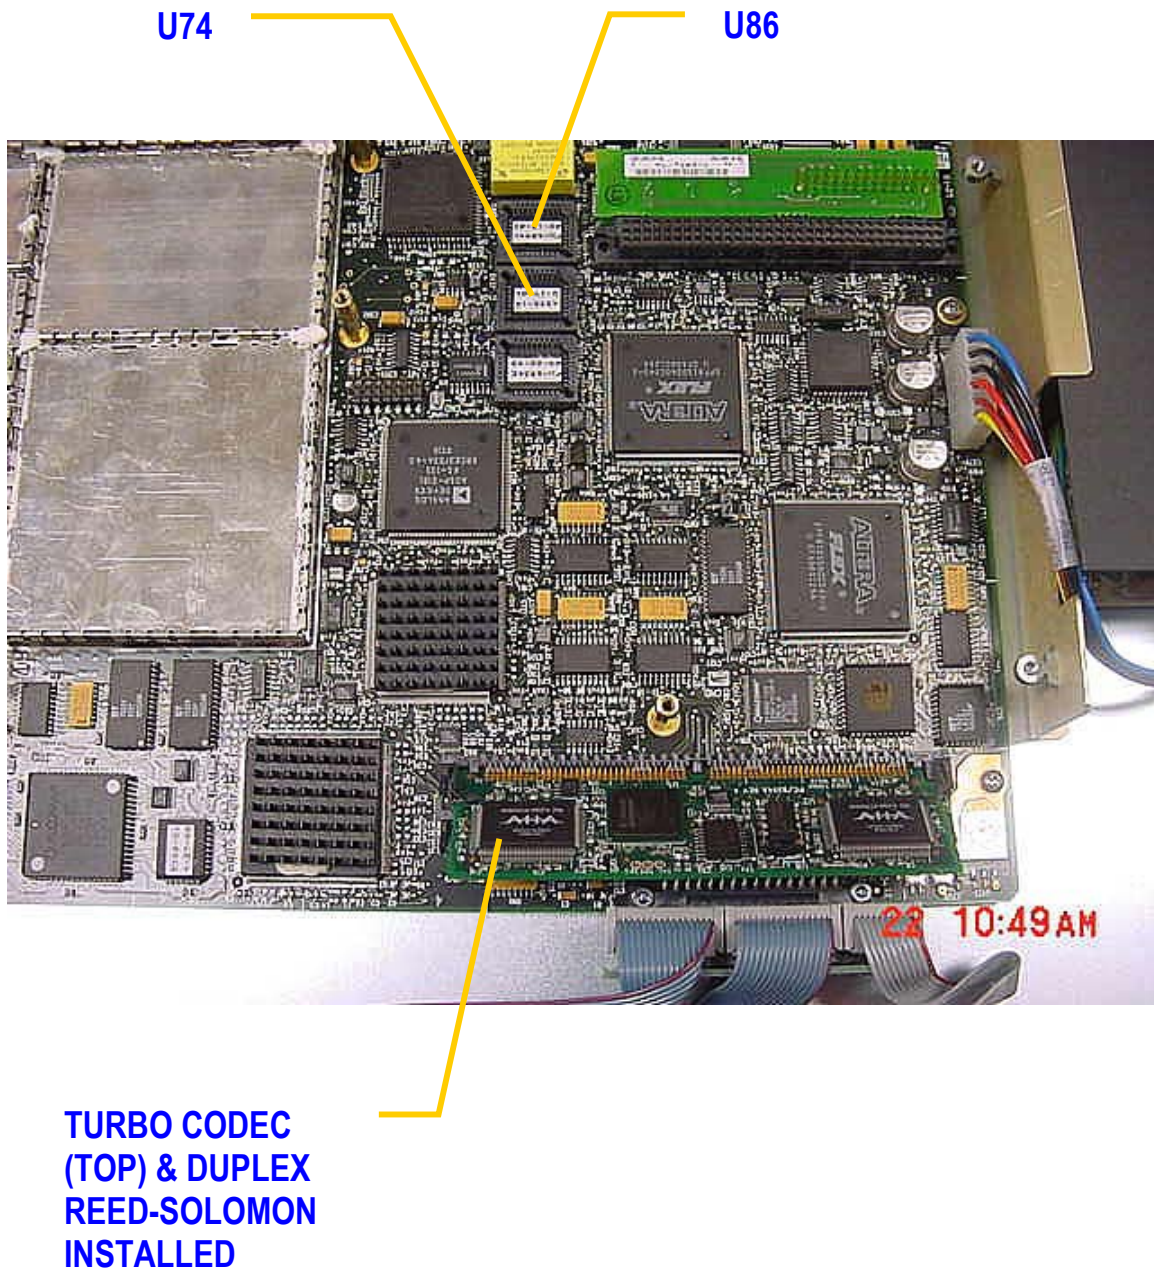

Figure 3
5) **Turbo installation, refer to Figure 3.** Align the Turbo board with either of the SIMM sockets while holding it nearly vertical with components toward Rear Panel. Seat the connector into the socket and tilt the board toward the Front Panel until the spring clips lock the board into place.
6) **Firmware installation, refer to Figure 3. If replacement Firmware IC's where sent with the Turbo Board**, Remove existing Firmware, U86 and U74 with PLCC type IC puller. If puller not available, use ice pick type tool to alternately, carefully pry upward at opposite corners of IC.